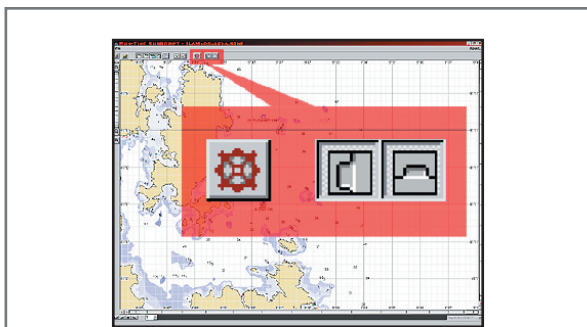

Figure 5. Ownship, Left-Side and Bottom Tab toggle buttons.
Upon startup, you may notice that the application layout is very similar to the old GeoSit capability (the original geographical display used for monitoring an exercise). However, RTS enables significantly greater user control over the scenario. These controls can be made visible by pressing the 'Left-Side Tab' and 'Bottom Tab' toggle buttons (Figure 5). The Helm Wheel icon - 'Ownship' button (Figure 5) is used for direct access to the Ownship control tab (Section 7.1.1). Select both tabs by clicking on them.
7.1.1 Bottom Tabs (refer to figure 5)
7.1.2 Left Side Tabs (refer to figure 5.)